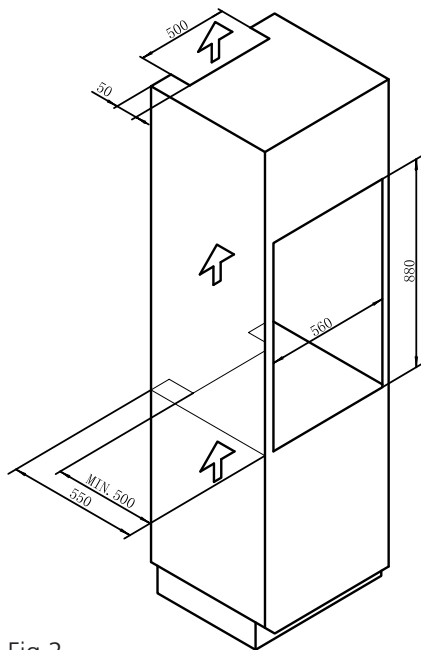

Fig.2
- For the most efficient air circulation, the oven should be fitted according to the dimensions shown in Fig.2 and Fig.3
- Openings at least 50mm deep must be cut both in the bottom and in the top of the unit to ensure adequate ventilation (see Fig.2 for dimensions).